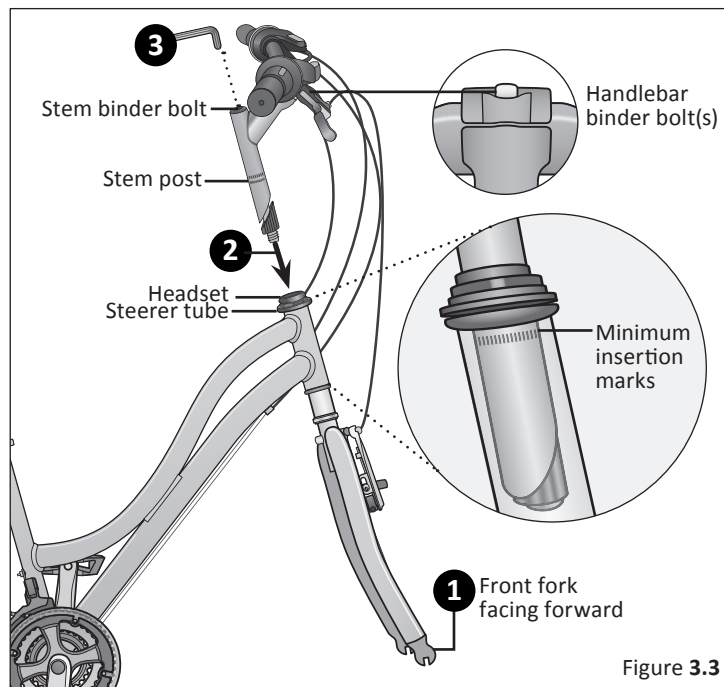

Figure 3.3
- 1 Turn the front fork to face forward. Figure 3.3